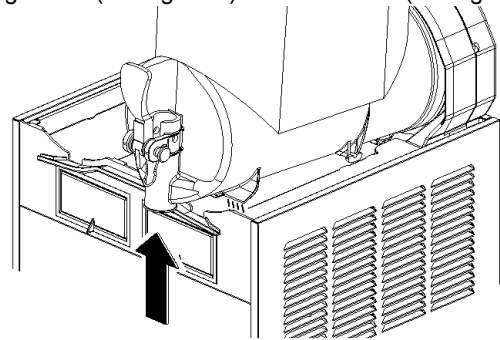
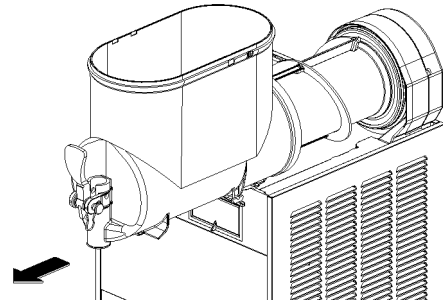

figure 7
figure 8
- 2** Remove the bowl by lifting its faucet side up and off the fastening hooks (see figure 7) and slide it out (see figure 8).